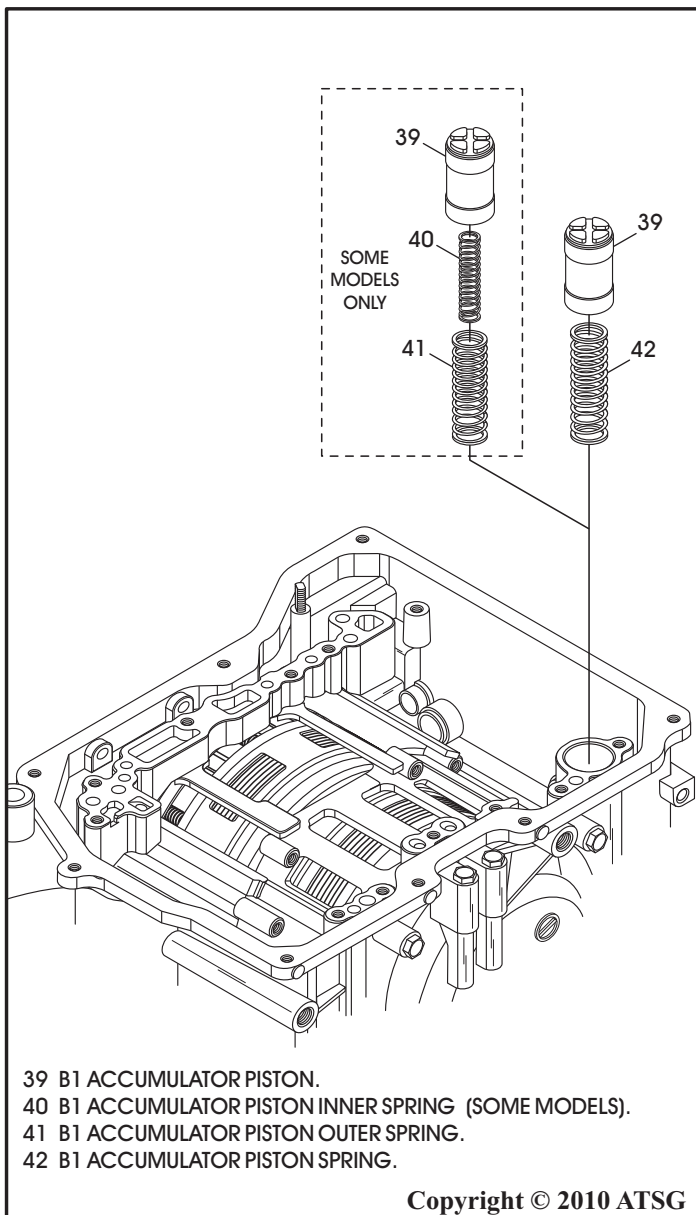

Figure 61
26. Remove the B1 accumulator piston and springs from transaxle case, as shown in Figure 61.